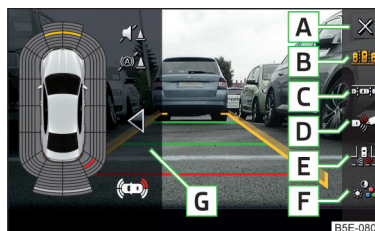

Fig. 263 Function surfaces
Functional surfaces » Fig. 263
- › Tap the function surface **C** » Fig. 263 on page 222.